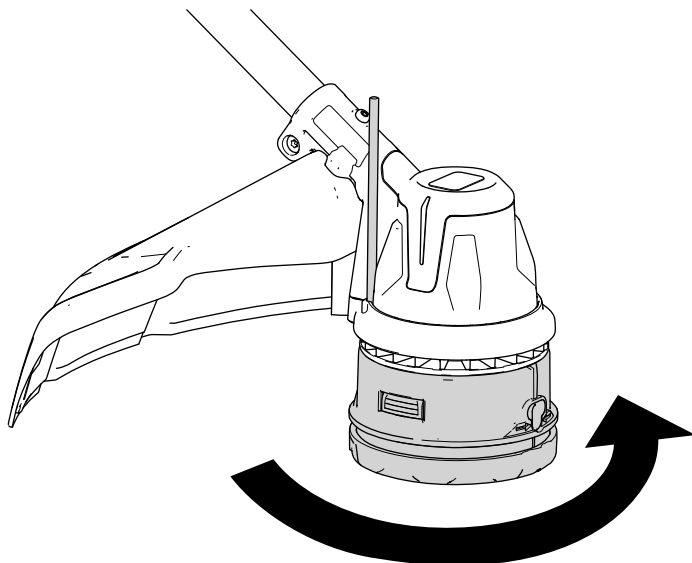

Figure 18
3. With a tool securing the trimmer head, rotate the trimmer head counterclockwise to remove it from the threaded gearcase post (Figure 18).